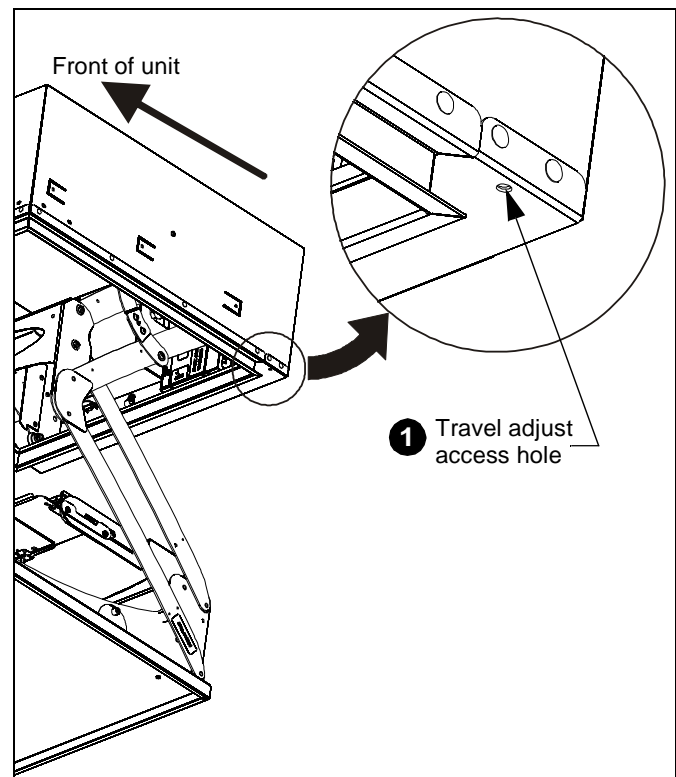

Figure 13
- Shorten travel by turning adjustment screw clockwise one or two turns. Check for desired travel, and repeat as necessary. (See Figure 13)
- Lengthen travel by turning the adjustment screw counter-clockwise one or two turns. Check for desired travel, and repeat as necessary. (See Figure 13)